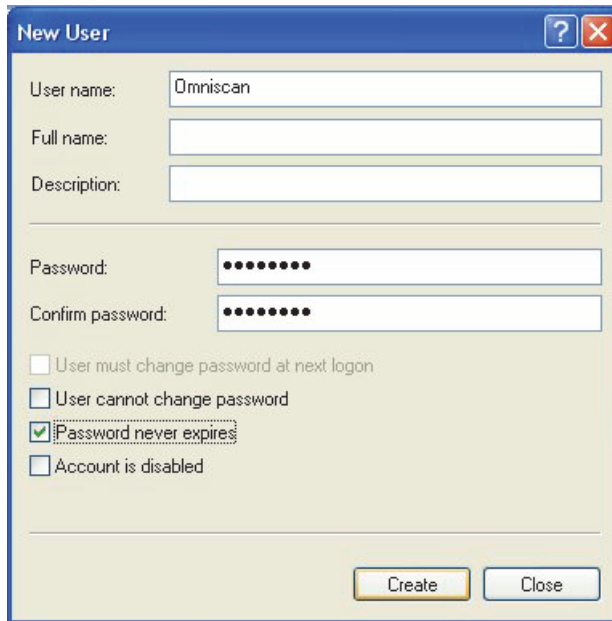

Figure 7-12 The New User dialog box (Windows XP)
5. In the **User name** text box, in the **New User** dialog box, type **Omniscan**, respecting the case of the letters (see Figure 7-12 on page 202).